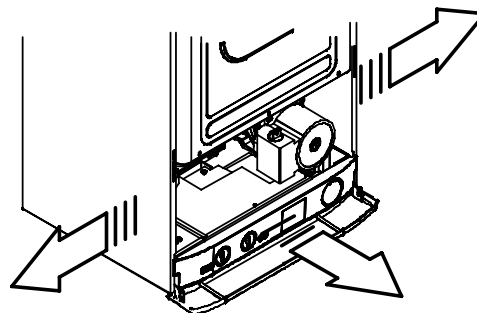

Fig. 6.9
- 4 Remove the side panels or move the lower part of the side panels as indicated in Fig. 6.9 and pull the control panel.